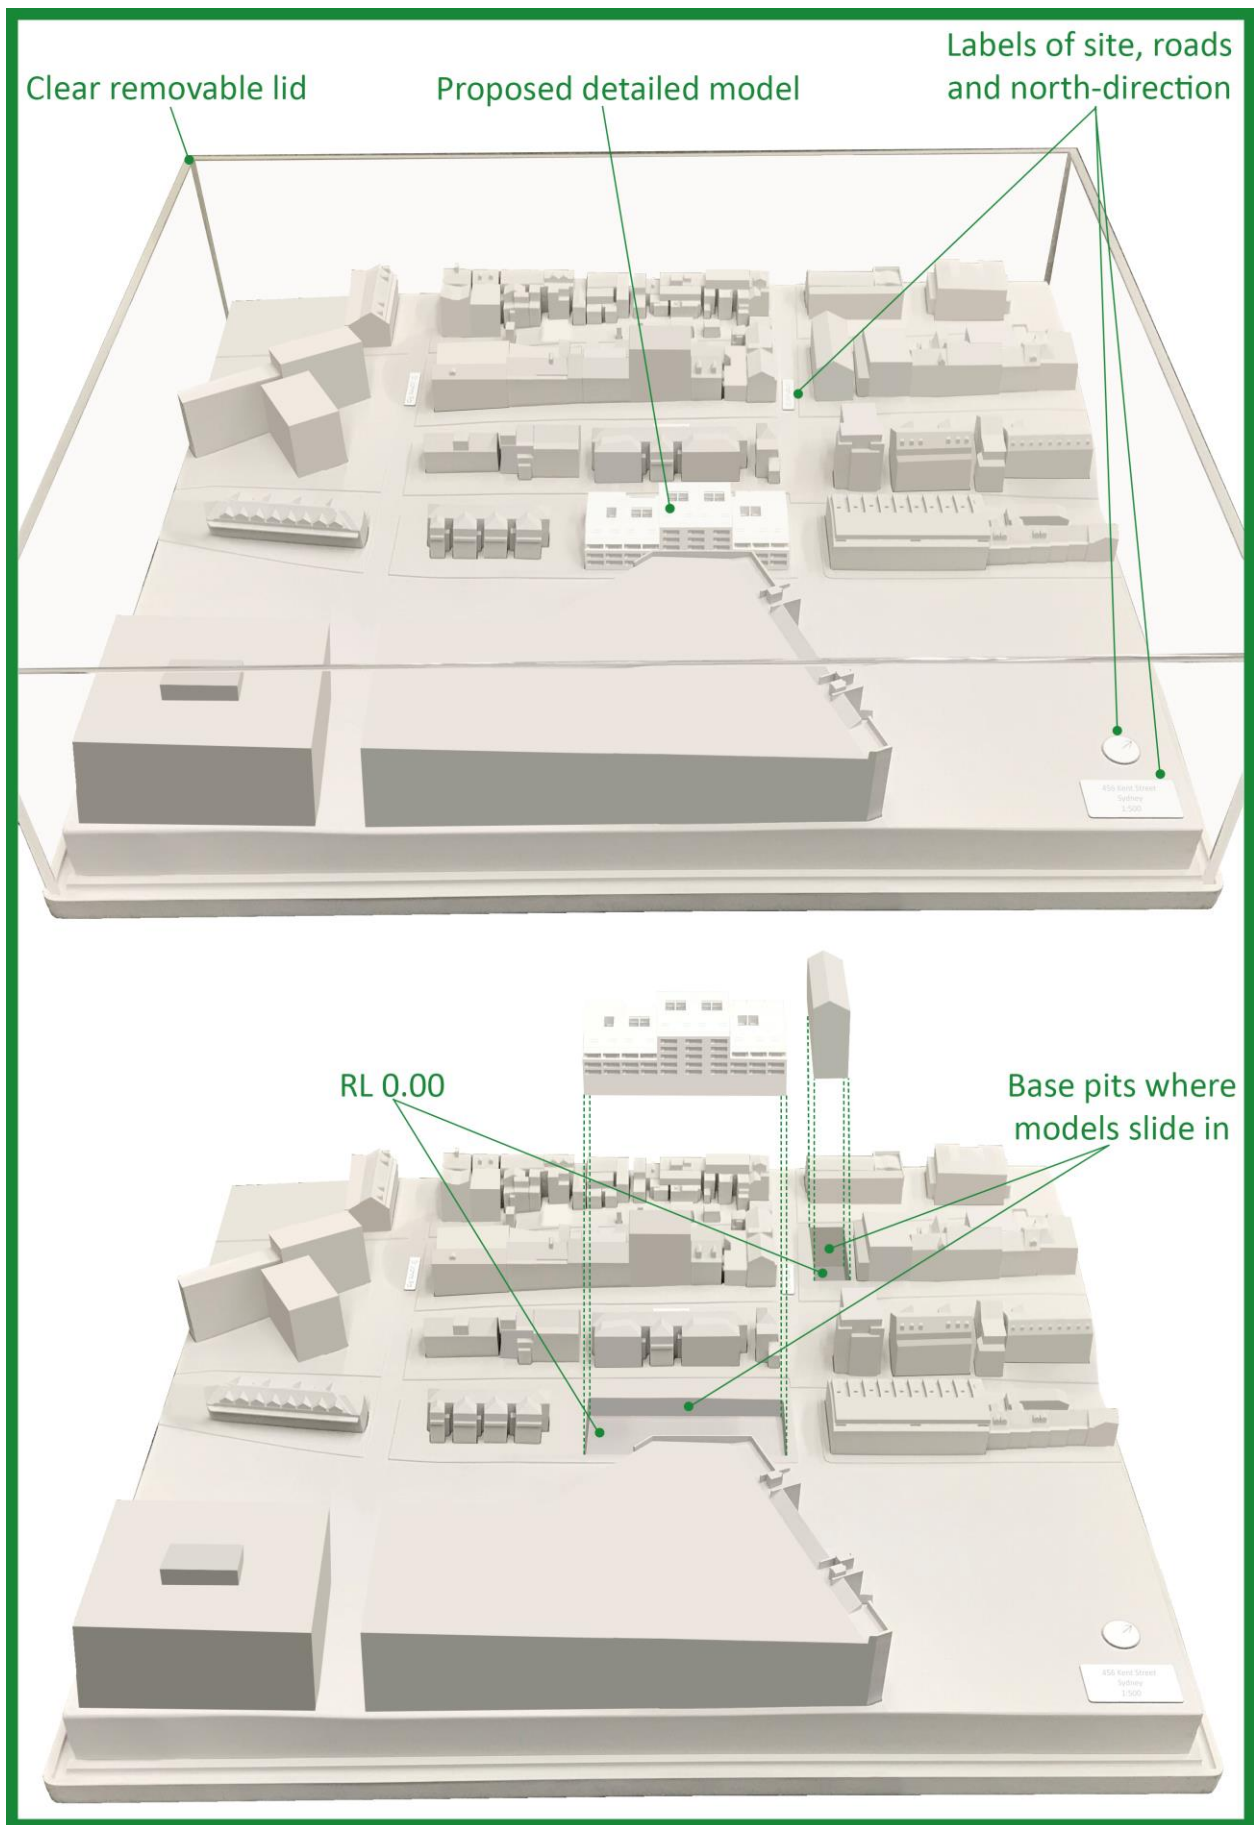

Figure 4. Level of details for a detailed 3D physical model.
- 3D physical Detailed models (Figure 4) are required for Development Applications, amendments, Occupation Certificates and retained buildings inside the site boundaries.